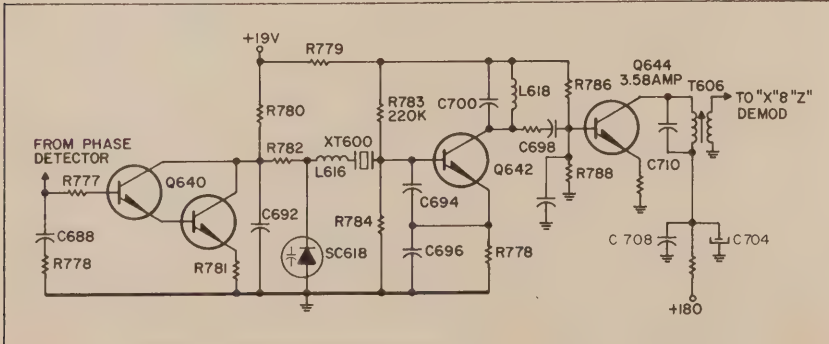

Fig. 4—The 3.58MHz CW oscillator utilizes a modified Clapp configuration.
The 3.58MHz continuous-wave (CW) oscillator circuit shown in Fig. 4 is a modified Clapp configuration using a 3.58MHz crystal in a series-resonant operating mode. This circuit provides a low-impedance feedback path from the collector to the base of transistor Q642, and mechanically controls the oscillator by its vibrating period. Capacitors C694 and C696 form part of the feedback circuit to sustain oscillation and as long as the feedback loop gain is unity, the oscillator will sustain operation.